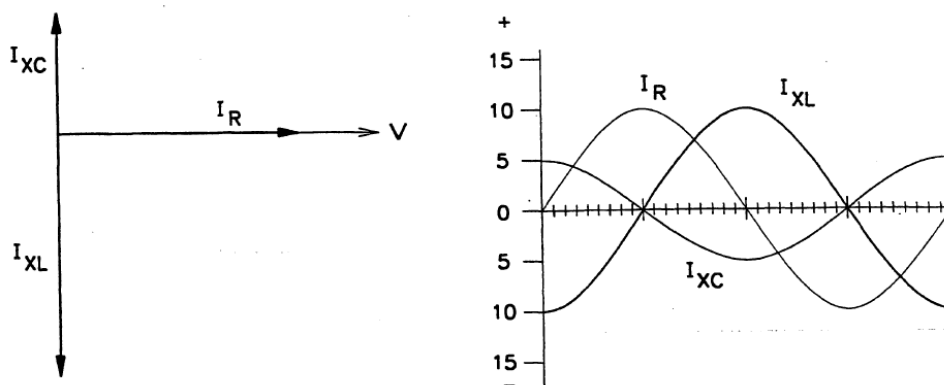

Figure 8 – Phasor diagram of a parallel RLC circuit
43. It is a parallel circuit, so the voltage is the same across all components, therefore the voltage is the reference phasor. The currents in the circuit can be shown on a phasor diagram as in Figure 8.